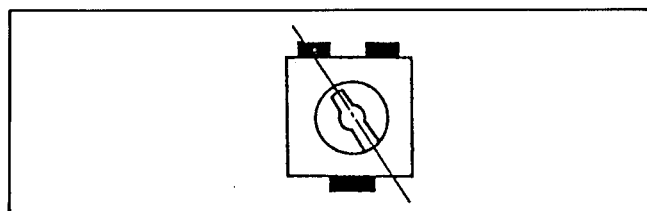

Fig. C24
- (1) Aim the camera at the white chart.
- (2) Supply the video signal to the vectorscope.
- (3) Rotate VR101 and VR102 fully clockwise as shown in Fig. C24.